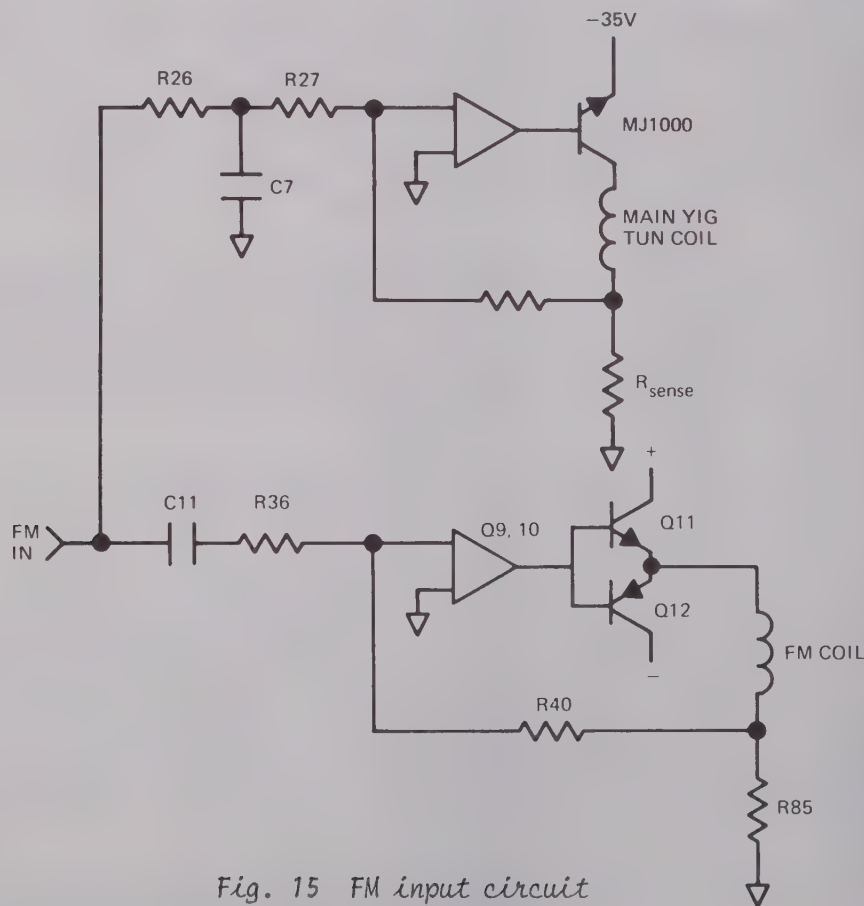

Fig. 15 FM input circuit
53. The method for providing a direct-coupled wideband f.m. input is shown in Fig. 15. The input signal is frequency multiplexed via a high pass and low pass filter which, in turn, feed the modulation signal frequency components to the f.m. coil and the main tuning coil, respectively.